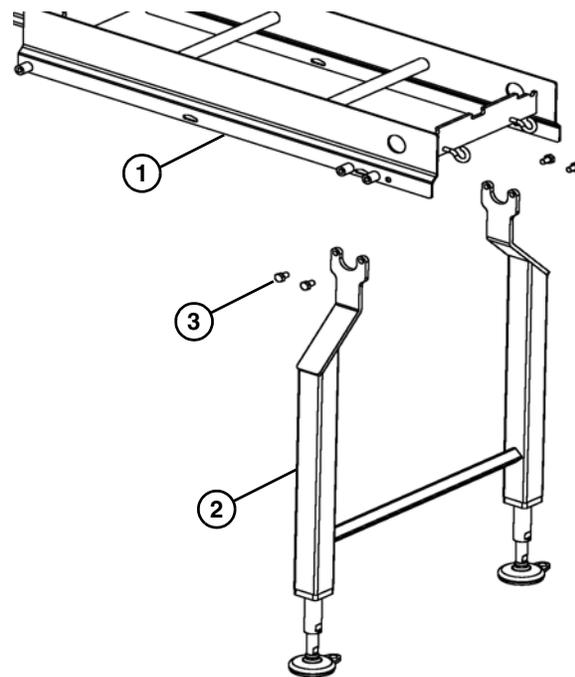

**Figure 32**
3. Insert the pull pins (Figure 32, item 1) into the holes in the guide (Figure 32, item 2).